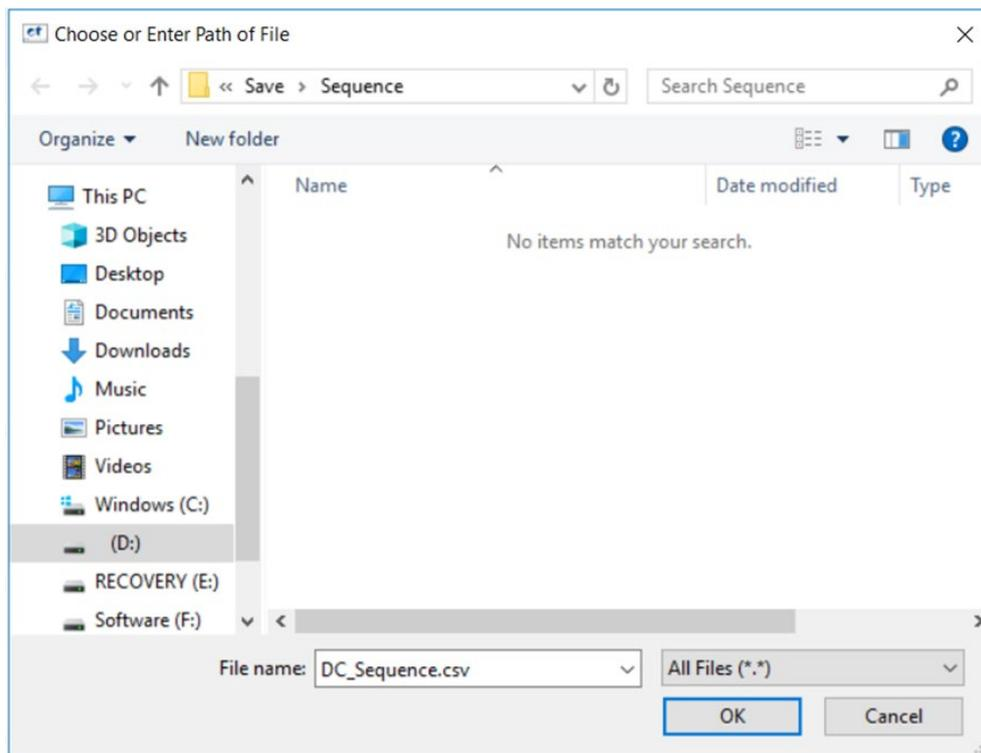

Figure 5-10 Sequence save/reload
①	Real-time parameters	The current output voltage, current and power of the power supply displays in Real time.
②	Parameter setting	The user can set parameters such as output voltage, equivalent internal resistance, upper and lower limits of current and power, dwell and switching time between working steps. The right side of each working step is the serial number and valid check box.
- ③ **Cycle number of working steps**
- ④ **Save** Click "Save", the user can save the parameters a .csv format file during the test run as. When more complicated parameters need to be set, saving the parameter data file for future use (Figure 5-10).
- ⑤ **Import** Click "Import", the user can reload the sequence parameter file of historical test settings.